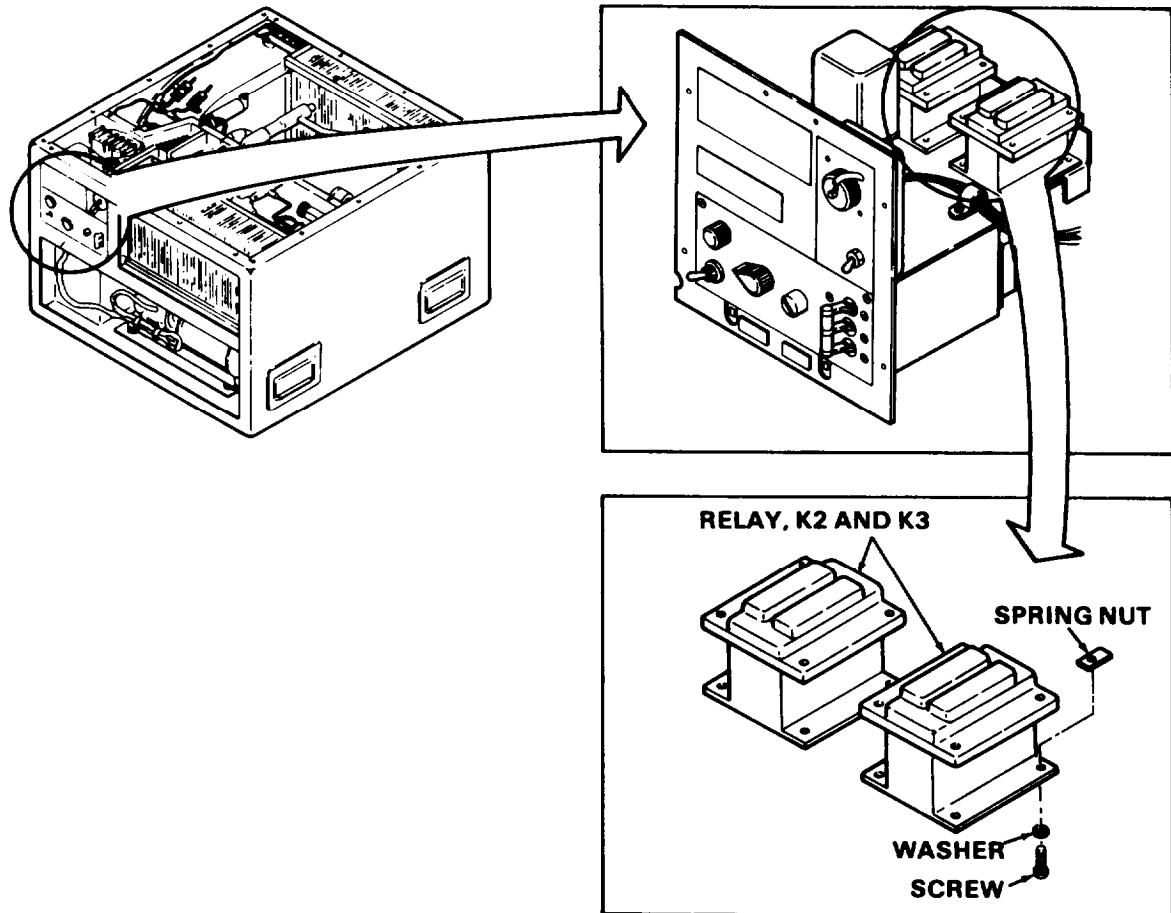

Figure 4-15. Heater Relay (K-2)
- (1) Refer to paragraph 4-29 and remove the junction box.
- (2) Refer to figure 4-15 and remove the heater relay.
- (1) Refer to figure 4-15 and install the fixed heater relay.
- (2) Refer to paragraph 4-29 and install the junction box.